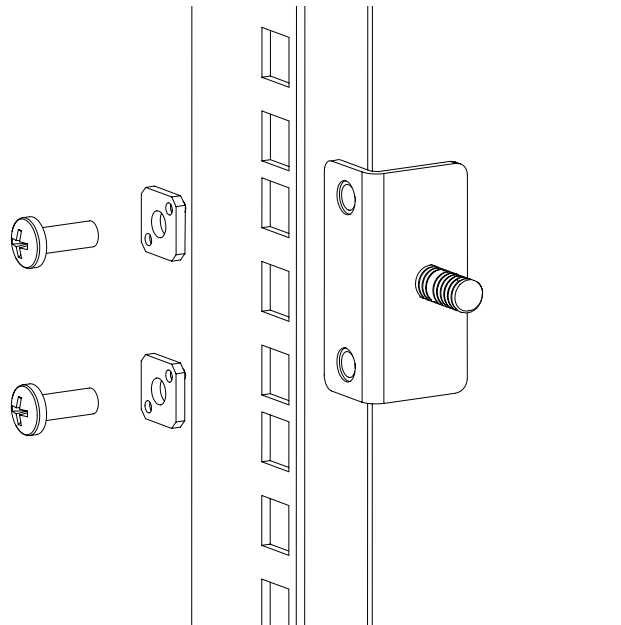

Figure 5: Installing the rear mounting brackets (HP 10000 series or comparable EIA cabinet)
- For an HP 10000 series or comparable EIA cabinet, assemble each of the two brackets with (2) #10-32 x 1/2-inch Phillips pan-head screws with captive star lock washers and (2) #10 adapter washers as shown in Figure 5.